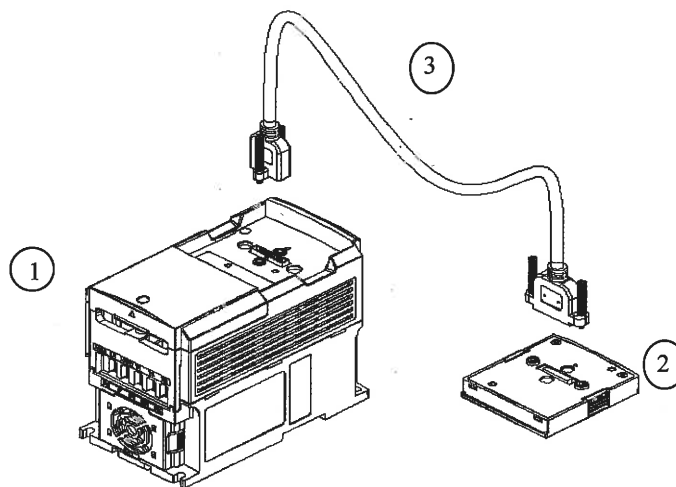

Figure 6-1 Digital Operator Extension Cable
2. Please refer to Figure 6-1 before mounting the keypad to your machine or Panel.
3. Connect the inverter and the keypad with the remote cable in accordance with the Figure 6-1.